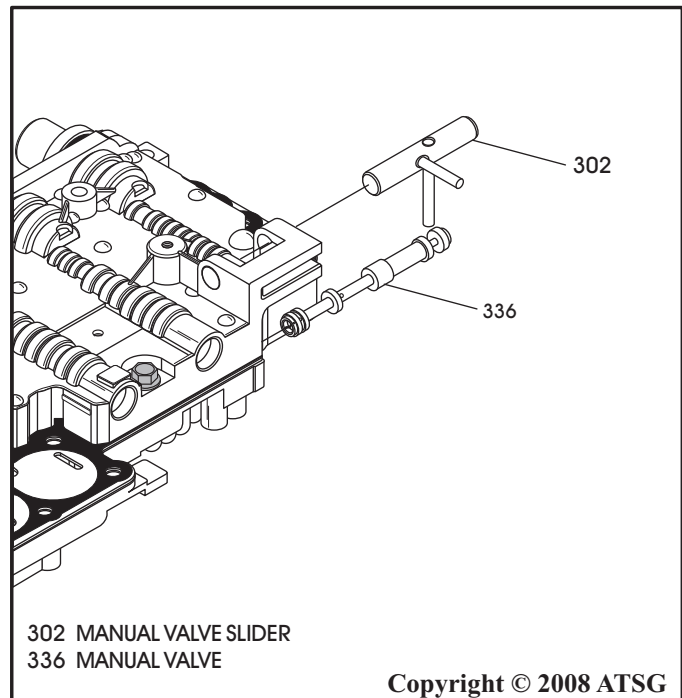

Figure 172
28. Install the manual valve slider and the manual valve, as shown in Figure 172.